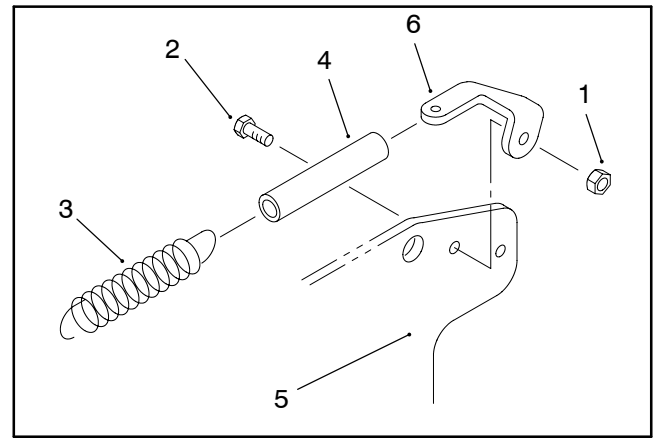

Figure 31
2. Remove extension spring from the spring bracket (Fig. 31).
14. Connect extension spring with dampener to the spring bracket (Fig. 31).